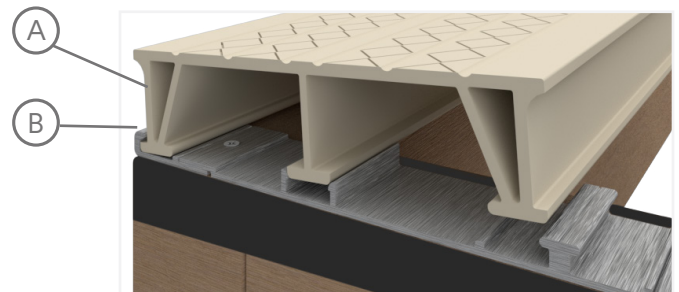

Fig. 10
- Insert the outer dock board leg fully into the clips closest to the structure’s edge or previously installed board (Fig. 10).